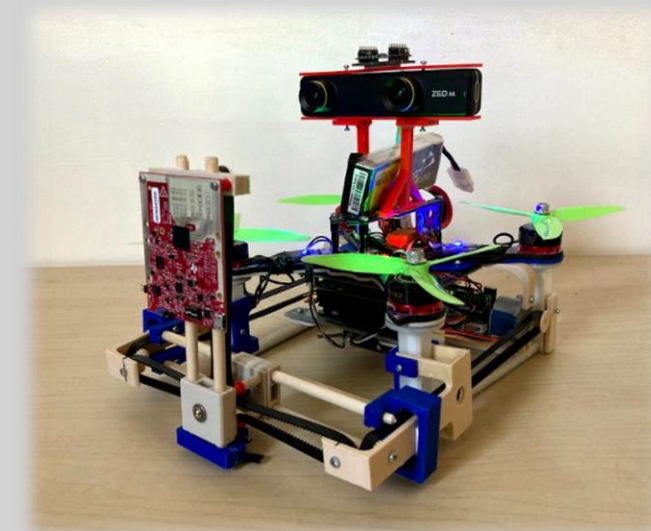

Fig. 2
- Drone with SAR mechanism holding and moving the radar sensor and depth camera (Fig. 2)